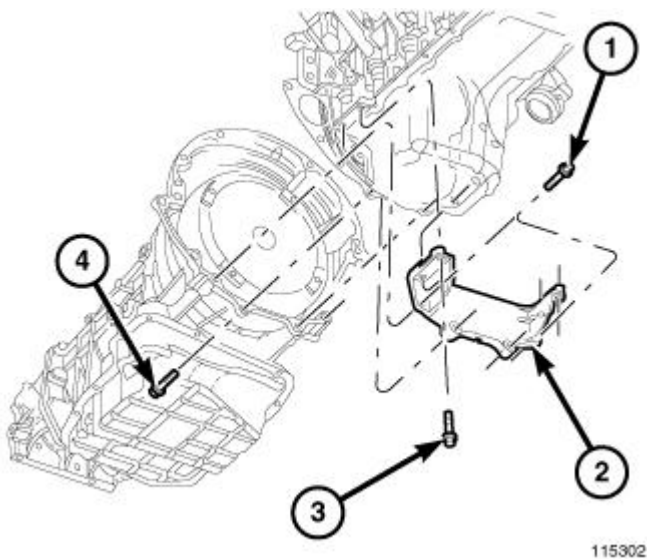

Fig. 140: Structural Cover
4. Starting with the two rear cover-to-engine bolts, tighten bolts (1) to 54 N.m (40 ft. lbs.), then tighten bolts (2) and (3) to 54 N.m (40 ft. lbs.) in the sequence shown in illustration. See **Fig. 140**.